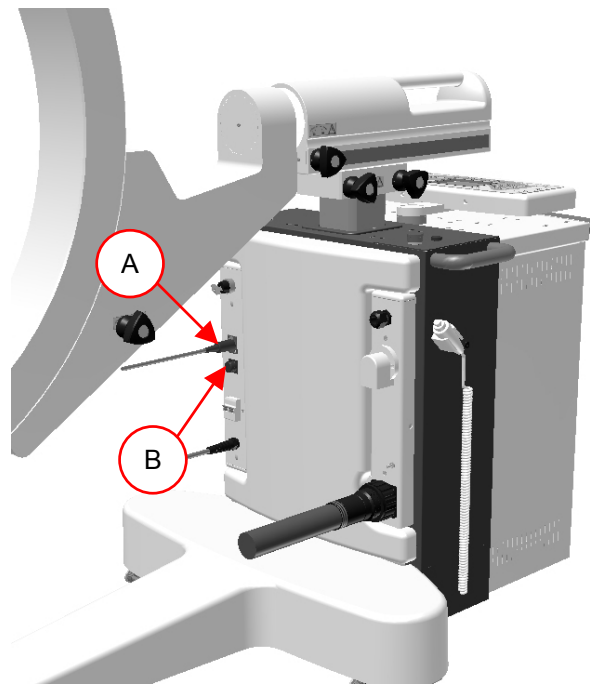

Fig. 18
- insert the connector of the footswitch in the appropriate outlet present on the mobile image intensifier (Fig. 18 pos. A);
The connection is performed through a multipolar connector with locking on ring nut (Fig. 18 pos. B). The prearrangement of the external signals wiring **must** be performed by the technical personnel.